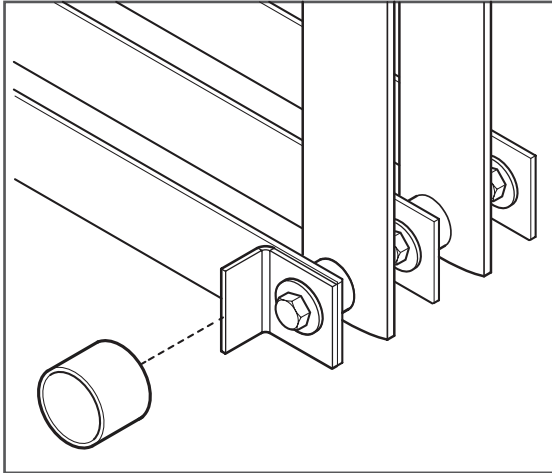

Figure11
12. Stretch rubber bumper (J.) over hard stops. Repeat for the hard stops on the other end of the track (Figure 11).